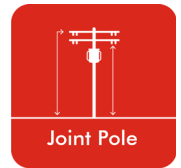

Figure 2
2. Tap install when you see the Joint Pole icon as you would any other Google Play app (Figure 2).